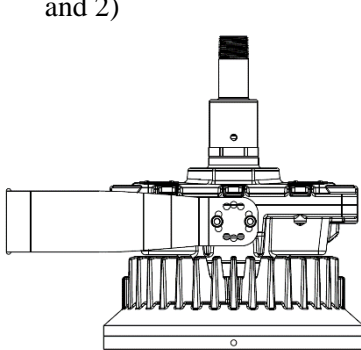

Figure 1
- ☞ Position the bracket holders and secured to mounting surface by means of the provided M6 screws with torque value 24.5 kgf-cm. (Figures 1 and 2)